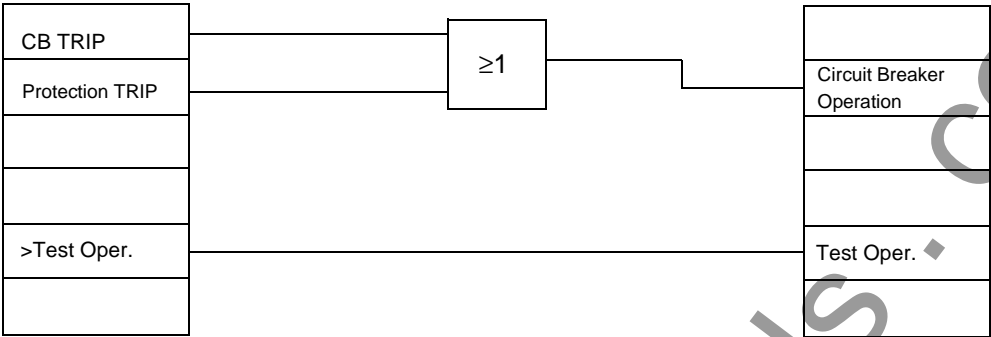

Figure 5-39 Additional logic as an example for a PLC_1 event-driven logic condition
By using slow PLC processing, an additional, event-driven logic condition may be constructed which delivers indications regarding switch-gear operating status. These indications may be passed externally via LEDs or relay contacts, or used as input signals for further logical links. In the example (see Figure 5-39), the output information indication from the circuit breaker interlocking logic (CB TRIP) and a joint indication from all protective element trip signals (Protection TRIP) are linked to a new "Circuit Breaker Operation" message. Furthermore, the single point indication (SP) **Test Oper**, which may be coupled via a binary input, is linked with an internal reusable "Test oper." message.